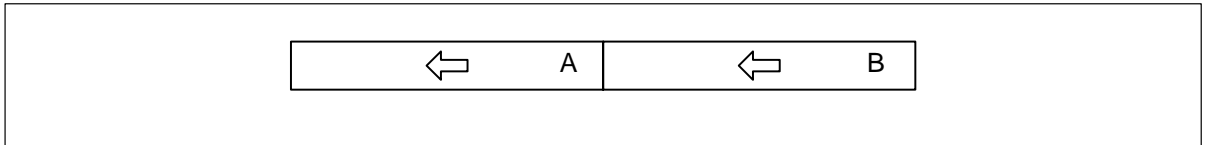

Figure 27. Two Reverse Line Segments
One channel (A) carries the left half of the line or image, and the other channel (B) carries the right half of the line or image. The direction is right to left, or reversed from what we consider the “normal” left to right scan. Data is presented simultaneously on both channels. Figure 27 shows where the data appears in a line from the original image. PC-CamLink can support this format for pixel depths from 8-bits up to 12-bits. The IFC Software Library calls this “Two Channel Separate Tap Right to Left” or LNK_2CHAN_SEP_TAP_R2L.